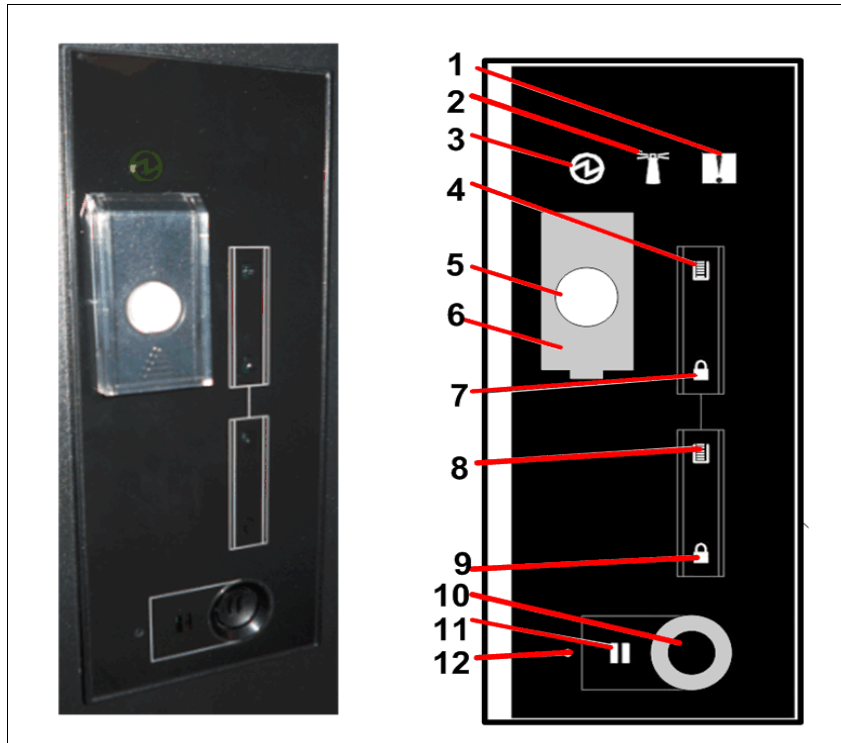

Figure 1-50 Display panel
The display panel on the base frame of the TS4500 Tape Library houses the library power and pause buttons. It displays library and I/O status indicators, as shown in Figure 1-50.
You can pause the library by pressing the pause button on the display panel (number 10 in Figure 1-50 on page 58) on the base frame of your TS4500 Tape Library. This pause button causes the library to move the cartridge accessor to the base frame and pause operations for 30 seconds or while a frame door is open. The pause light next to the pause button stops flashing, and it illuminates solid to indicate that the library is paused (number 11 in Figure 1-50 on page 58).
1. From the display panel on the base frame of the library, slide the plastic cover that protects the power button up to make available the button (number 6 in Figure 1-50 on page 58).
2. Press the power button (number 5 in Figure 1-50 on page 58) and wait to see that the green power indicator turns on and stays on.
2. Pause the library by pressing the pause button on the display panel (number 10 in Figure 1-50 on page 58) on the base frame of your TS4500 Tape Library. This pause button causes the library to move the cartridge accessor to the base frame and pause operations for 30 seconds or while a frame door is open. The pause light next to the pause button stops flashing, and it illuminates solid to indicate that the library is paused (number 11 in Figure 1-50 on page 58).
3. From the display panel on the base frame of the library, slide the plastic cover that protects the power button up to make available the button (number 6 in Figure 1-50 on page 58).
4. Press the power button (number 5 in Figure 1-50 on page 58) and wait until the green power indicator light turns off.
Press the Access Recovery button (see Figure 1-50 on page 58) then, log in to the GUI by using `admin` for the username and password.